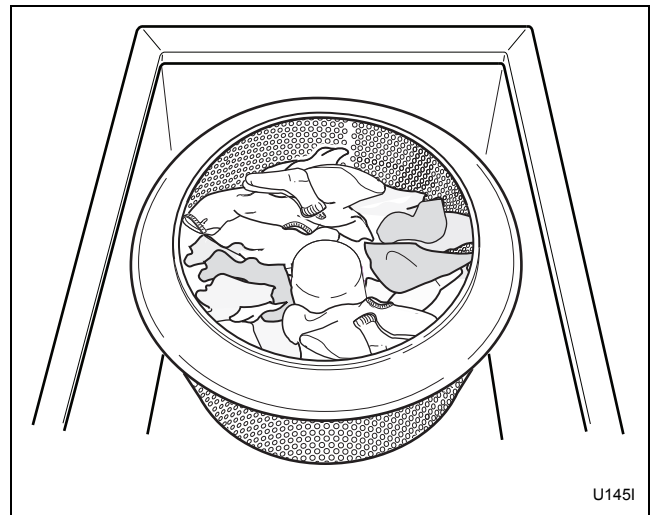

Figure 14
- When cycle is finished, place washables in extract-rinse compartment. Distribute evenly around agitator. Refer to *Figure 14*.